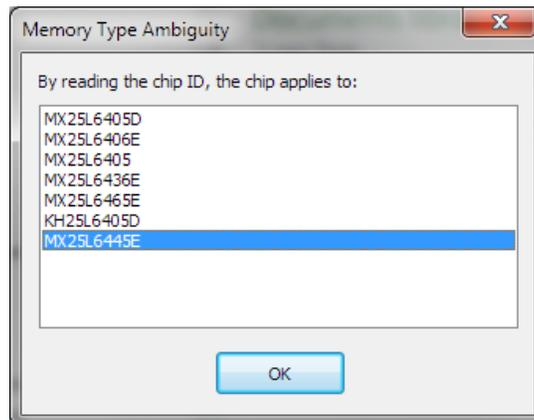

Figure 3-6. Chips available from the manufacturer.
- o If a list of flash devices is displayed, select the Macronix* chip MX25L6445E or the Winbond* chip W25Q64BV (see Figure 3-6), as appropriate for the SPI device on your motherboard.